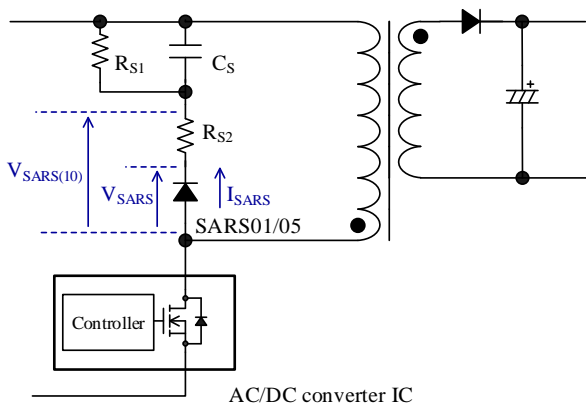
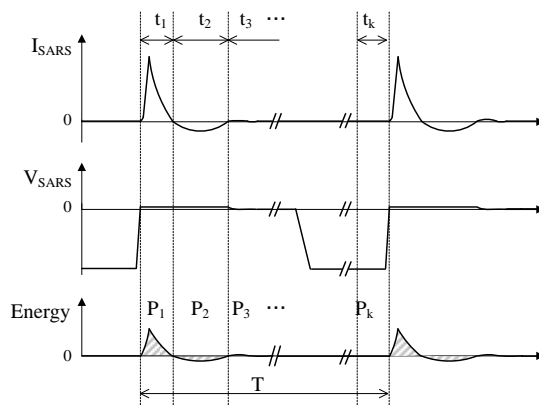

Figure 22. Typical Application
Figure 23. SARS01/05 Current
Figure 22 shows a typical application using the SARS01/05. Figure 23 shows the operating waveforms of the SARS01/05. The power dissipation of the SARS01/05 is calculated as follows:
- 2) The each average energy ($P_1, P_2 \dots P_k$) is measured at period of each polarity of $V_{SARS} \times I_{SARS}$ ($t_1, t_2, \dots t_k$) as shown in Figure 22 by the automatic measurement function of the oscilloscope.
- 3) The power dissipation of the SARS01/05, P_{SARS} , is calculated by Equation (1):